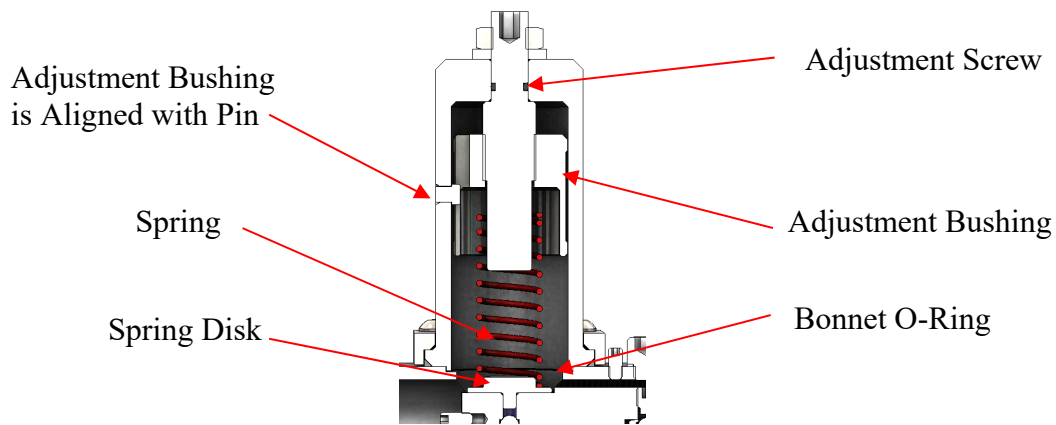

Figure 54: Detail of Pilot Bonnet
20. Insert the spring disk onto the beam through the top of the pilot body. See Figure 54.
28. Carefully slip fit the adjustment screw and bushing into the pilot bonnet by aligning the bonnet side pin with the slot of the adjustment bushing. See Figure 54.
31. Place the bonnet o-ring on the recess groove of the bonnet. See Figure 54.